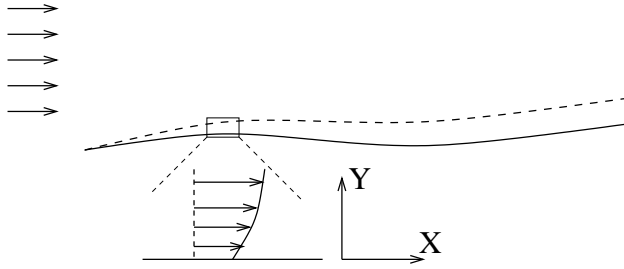

Figure 18: Flow with velocity slip across a surface.
4. Consider the flow past a curved surface with a slip boundary condition at the surface, as shown in figure 18. There is fluid flow across the sur-